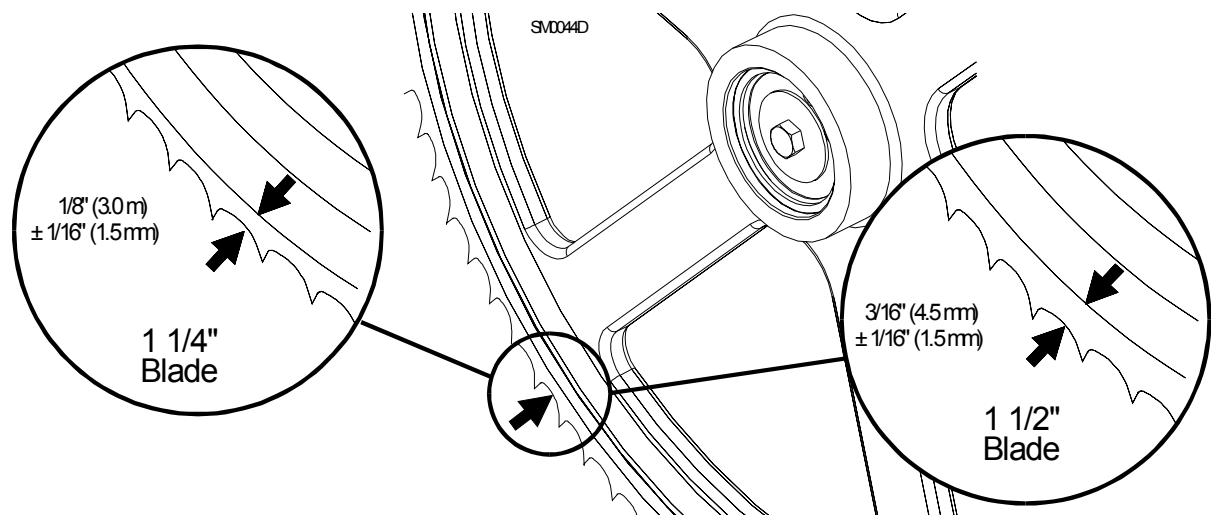

FIG. 2-7
**See Figure 2-7.** Position 1 1/4" wide blades so the gullet is 1/8" (3.0 mm) out from the edge of the blade wheel ( $\pm 1/16$  [1.5 mm]). Position 1 1/2" blades so the gullet is 3/16" (4.5 mm) out from the edge of the blade wheel ( $\pm 1/16$  [1.5 mm]).